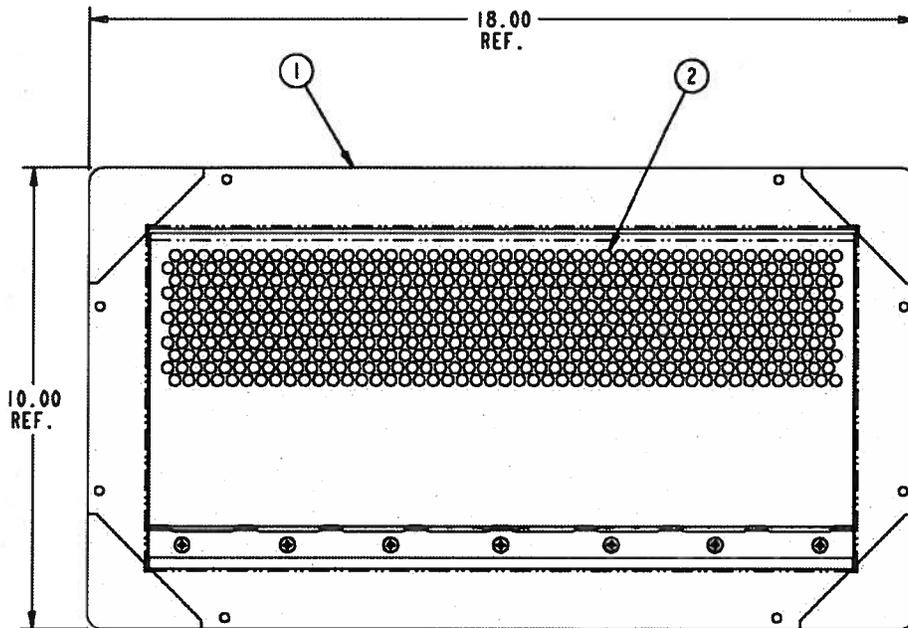
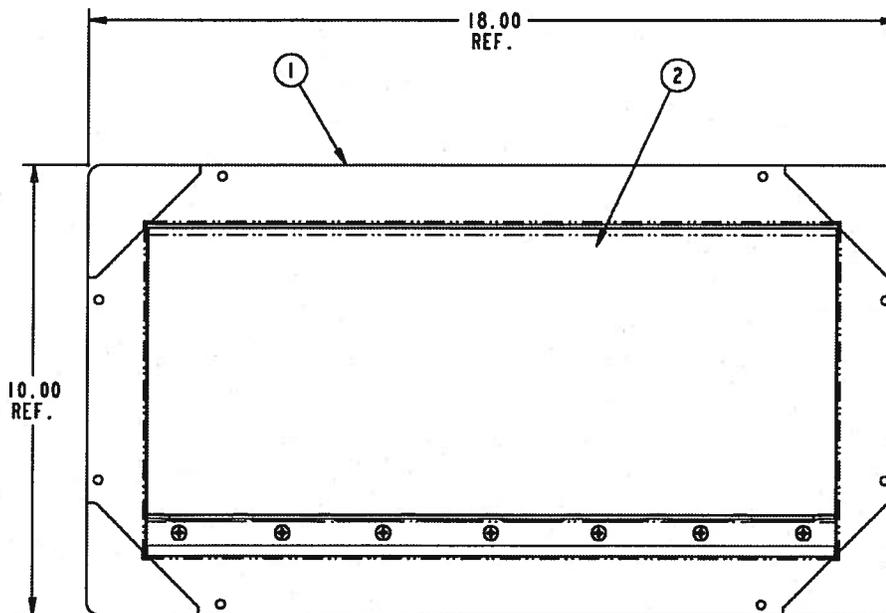
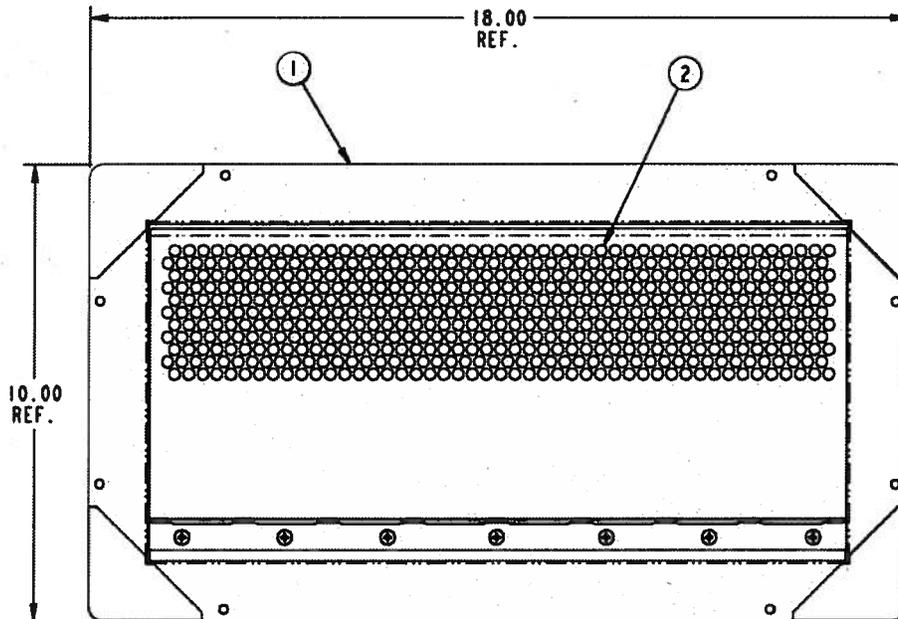
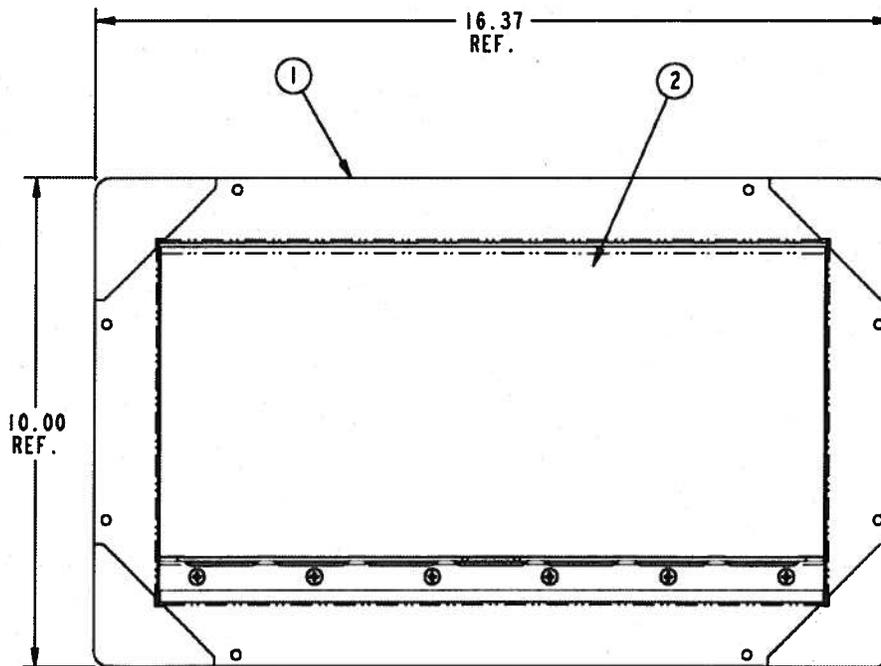

FIGURE 2 – FASS Flood Vent
FIGURE 3 – FOAL Flood Vent
FIGURE 4 – FAAL Flood Vent
FIGURE 5 – ROAL Flood Vent
3.3. Model Sizes: Models FOSS, a stainless steel flood vent with no ventilation, measures 18 inches wide by 10 inches high (See Figure 1). Model FASS, a stainless steel flood vent with ventilation, measures 18 inches wide by 10 inches high (See Figure 2). Model FOAL, an aluminum flood vent with no ventilation, measures 18 inches wide by 10 inches high (See Figure 3). Model FAAL, an aluminum flood vent with ventilation, measures 18 inches wide by 10 inch high (See Figure 4). Model ROAL, an aluminum flood vent used for retrofitting with no ventilation, measures 16.37 inches wide by 10 inches high (See Figure 5).